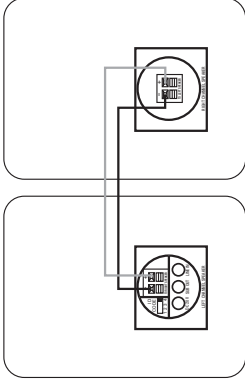

Figure 3.
Step 3. Connect the speaker wire (included) to the push terminals on the active speaker ⑤ and the push terminals on the rear of the passive speaker ⑥. See Figure 3. Please note that the speaker wire supplied features a polarity stripe to help distinguish its two conductors. Use this polarity stripe to ensure that you are connecting the positive (+) terminal on one speaker to the positive (+) terminal on the other, and the negative (-) to the negative (-). It does not matter whether you use the striped conductor for connecting the positive (+) terminals or the negative (-) terminals.
Step 3. Connect the speaker wire (included) to the push terminals on the active speaker ⑤ and the push terminals on the rear of the passive speaker ⑥, as shown in Figure 3. Please note that the speaker wire supplied features a polarity stripe to help distinguish its two conductors. Use this polarity stripe to ensure that you are connecting the positive (+) terminal on one speaker to the positive (+) terminal on the other, and the negative (-) to the negative (-). It does not matter whether you use the striped conductor for connecting the positive (+) terminals or the negative (-) terminals.
Step 4. Plug the transmitter module ② and active speaker ⑦ into the wall outlet, using the correct power supply and power cord. Make sure the transmitter's antenna ① is extended upwards.
Step 5. Make sure the ID code setting on the transmitter ③ is set to the same setting as that on the active speaker ⑤. See Page 8 of this manual for more information on ID codes. If necessary, configure your receiver to activate the preamp level outputs for the main/front channels (consult your source's owner's manual for specific instructions).
Step 3. Connect the speaker wire (included) to the push terminals on the active speaker ⑩, and the push terminals on the rear of the passive speaker ⑪, as shown in Figure 3. Please note that the speaker wire supplied features a polarity stripe to help distinguish its two conductors. Use this polarity stripe to ensure that you are connecting the positive (+) terminal on one speaker to the positive (+) terminal on the other, and the negative (-) to the negative (-). It does not matter whether you use the striped conductor for connecting the positive (+) terminals or the negative (-) terminals.